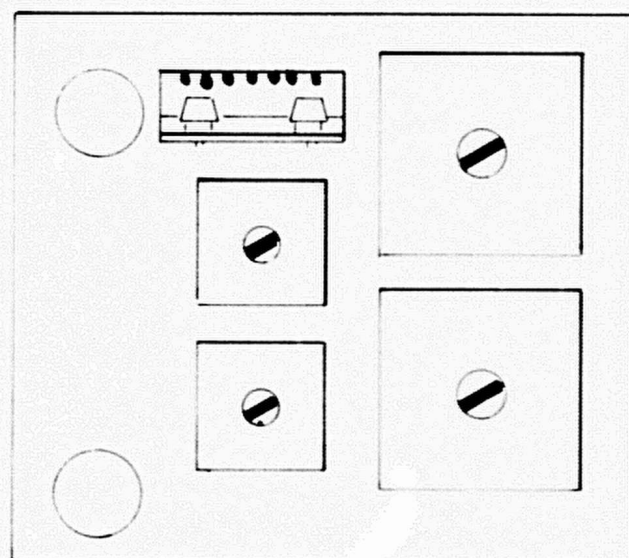

Fig. 4
4. Connect wires to the rectifier assembly as shown in Fig. 4.